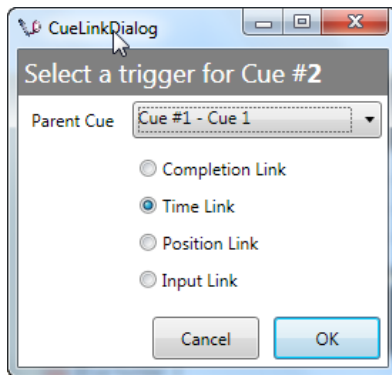

Figure 157
2. Select the **Parent Cue** from the drop down list and select **Time Link**, then press **OK** (Figure 157).